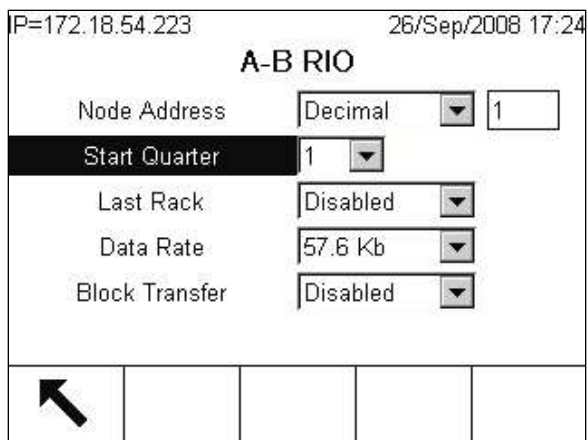

Figure 1-7: A-B Rio Setup Screen
1. From Setup select **Communication > PLC > A-B RIO** (Figure 1-7):